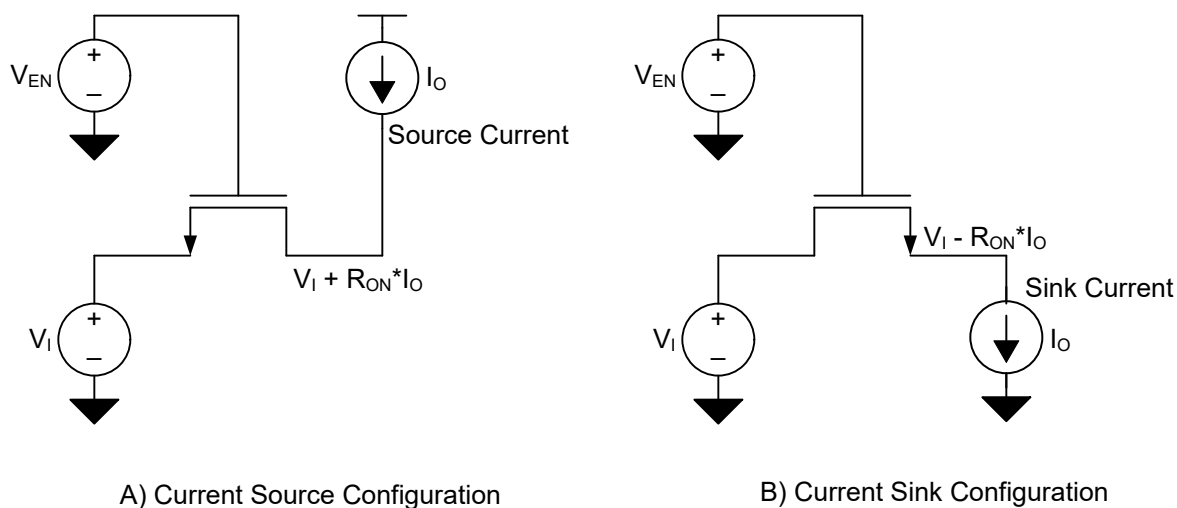

图 6-1. Current Source and Current Sink Configurations for Direct  $R_{ON}$  Measurements
(1) All typical values are at TA = 25°C.
(2) Measured by the voltage drop between the SCL1 and SCL2, or SDA1 and SDA2 terminals, at the indicated current through the switch. Minimum ON-state resistance is determined by the lowest voltage of the two terminals.
(3) Measured in current source configuration only. See Figure 6-1
(4) Measured in current sink configuration only. See Figure 6-1